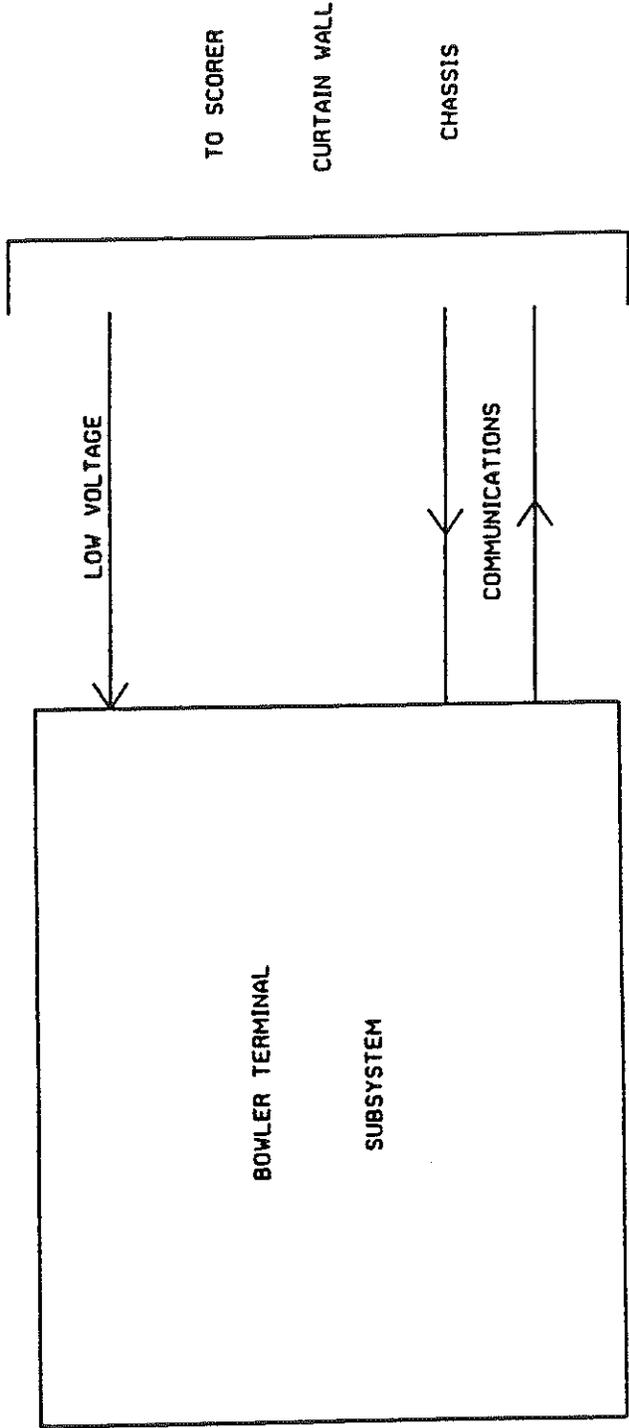

FIGURE 4
The bowler terminal subsystem operates from low voltage A.C. power that is supplied from the AccuScore Systems unit. (See Fig. 4) This low voltage A.C. power is converted to regulated D.C. power on the bowler terminal printed circuit board and is used to power the microprocessor chip that controls all functions in the bowler terminal.
- * FOUL Indicates that the bowler has fouled and his/her score should not be taken into account. Although in Fig. 4, the foul signal is shown to come from the machine for simplicity, it typically comes from a Foul Detector Unit.